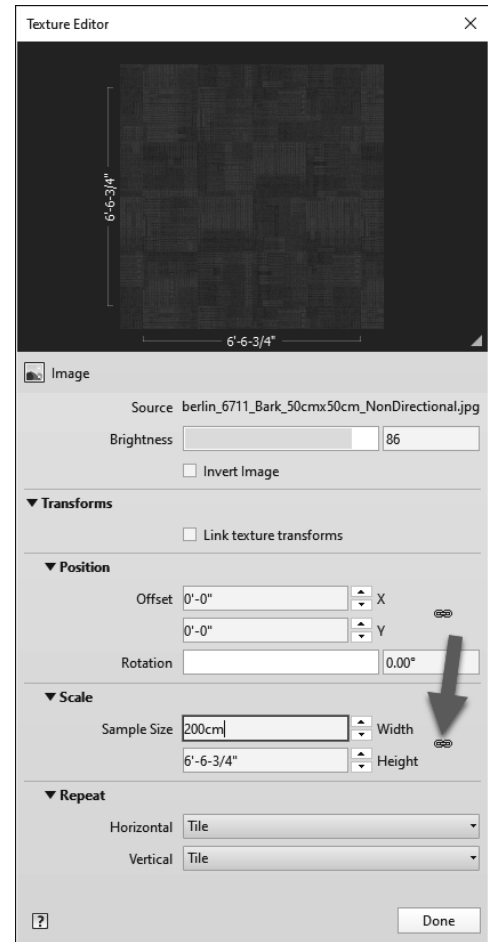

FIGURE 4-3.10 Texture Editor
You are now in the *Texture Editor* dialog (Figure 4-3.10). Here you may adjust several settings related to the raster image.
23. Click the **chain icon** pointed out in Figure 4-3.10.